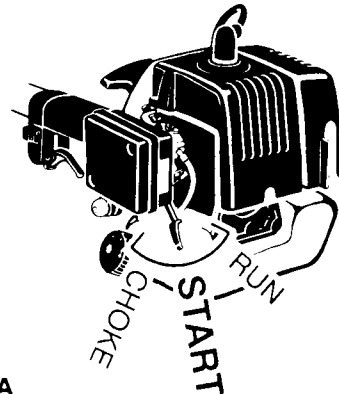

Figure 6-3A
1. Place choke in "START" position. (Figure 6-3A)